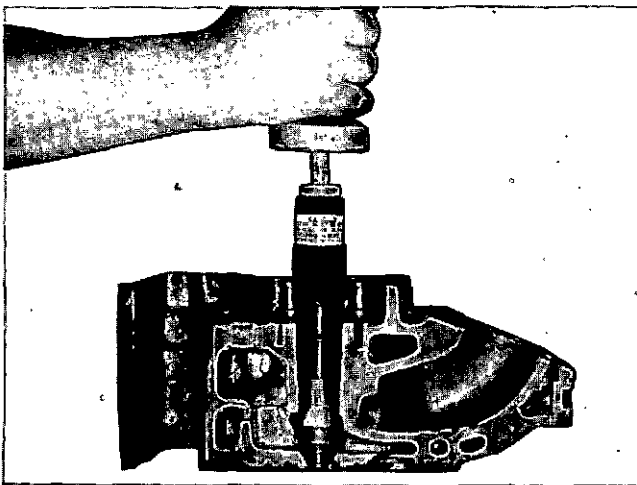

Fig. 2-2-1, V40246. Removing injector sleeve with ST-1153
1. Remove worn sleeves (1, Fig. 2-2-1) used with cylindrical injectors with ST-1140 or ST-1153 Injector Sleeve Extractor (2). If puller is not available a "muffler sleeve cutting tool" may be used if extreme caution is observed to prevent damage to head surfaces.